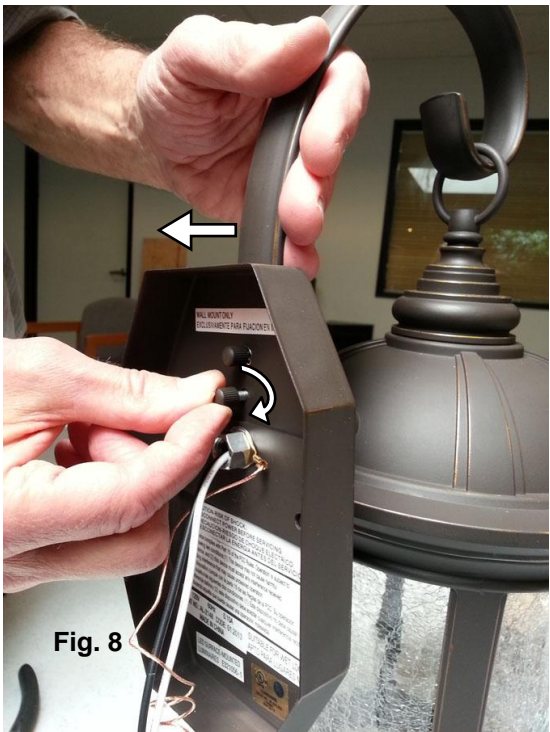

Fig. 8
- Position the OPTIONAL ARM so that the THUMBSCREWS protruding from the front side of the WALL PLATE align with its holes. Tighten the THUMBSCREWS into the holes of the OPTIONAL ARM until it is secured flush against the WALL PLATE.(Fig. 8)